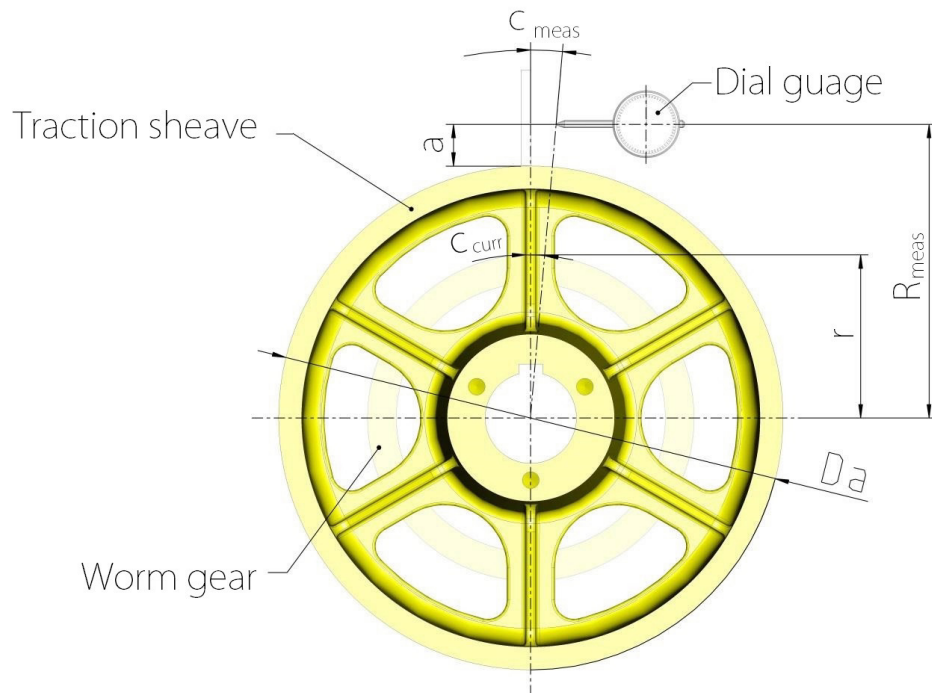

Figure 3 - Structure of the measurement
4. Fix a dial gauge with magnetic holder to the gearbox housing and attach the dial gauge at the measuring point, see Figure 3 - Structure of the measurement.